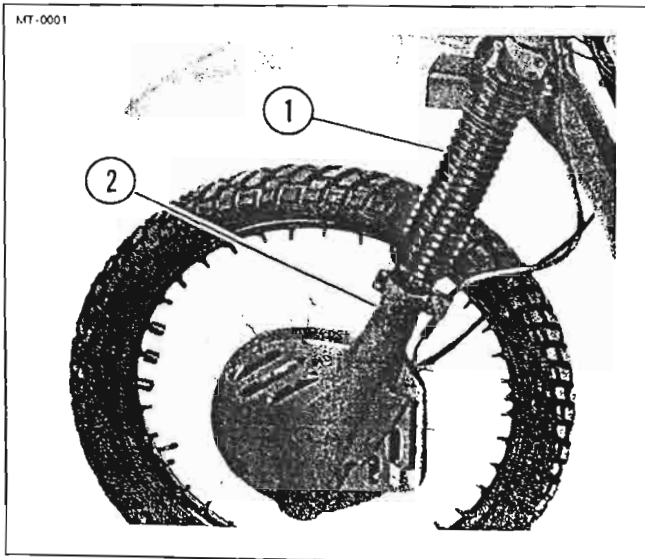

Figure 2-11. Front Shock Absorber
1. See Figure 2-11. Check flexible boots (1) on front shock absorbers for cuts, tears, holes, splitting, or other damage. Check for fluid leakage on sliders (2). Refer to *Service Manual* for repairs.